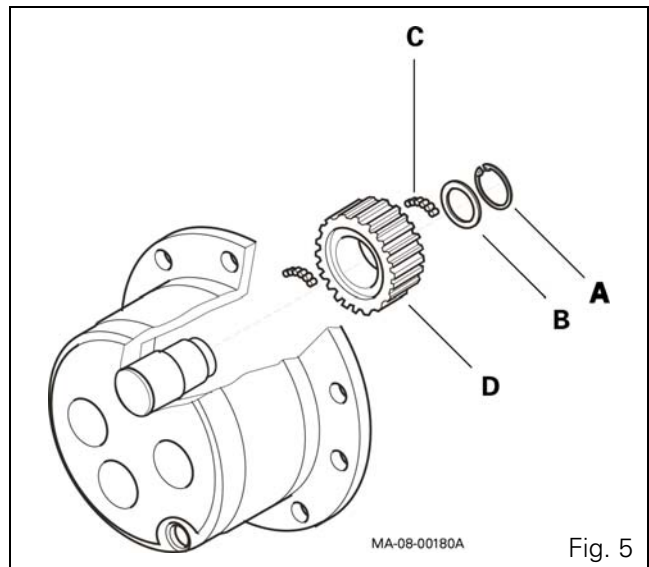

Fig. 5
- **For models 20.19 and 20.22 (Fig. 5)**